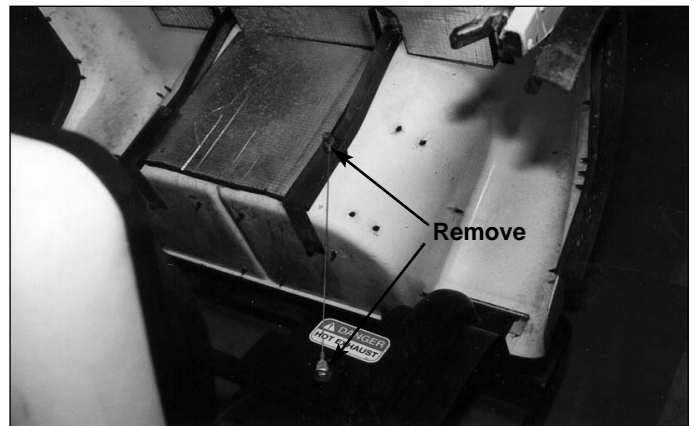

Figure 21 - Rear Body Restraint
1. Lift and open mid-body, then, rear body. Locate body restraint strap, and remove nut securing strap to bag rack. See Figure 21.
3. Raise body carefully enough that rear body restraint strap can be connected to chassis. See Figure 21.